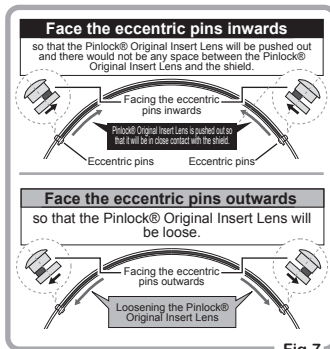

Fig.7
- ① Remove the shield from the helmet and detach the Pinlock® Original Insert lens from the shield.
- ② Adjust the eccentric pins by turning them with a tool. (Fig. 7)
- ③ Fit the Pinlock® Original Insert Lens back on the shield. Make sure the Pinlock® Original Insert Lens and the shield do not have any space in-between after attaching the shield on the helmet. If there is any space please follow the same steps again.